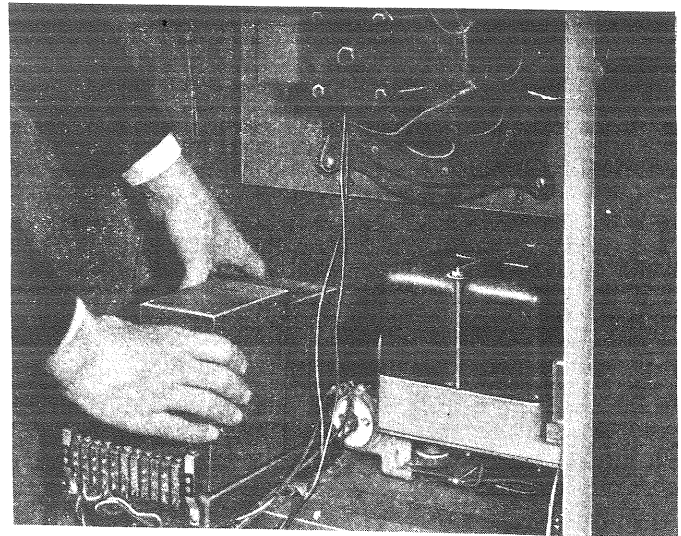

Figure 25—Removing socket power unit from Radiola 46
- (d) Remove the four machine screws that hold the S.P.U. to the cabinet. The S.P.U. may now be lifted clear of the cabinet and placed in a convenient place for work (Figure 25).